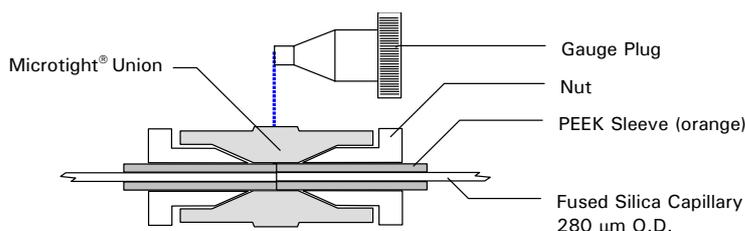

FIGURE C-7. High Pressure Connection using a Microtight union.
- a) Screw the gauge plug in the Microtight union (FIGURE C-7).
- b) Put in the capillary using an orange sleeve (P/N 161498) and tighten the nut (FIGURE C-7).